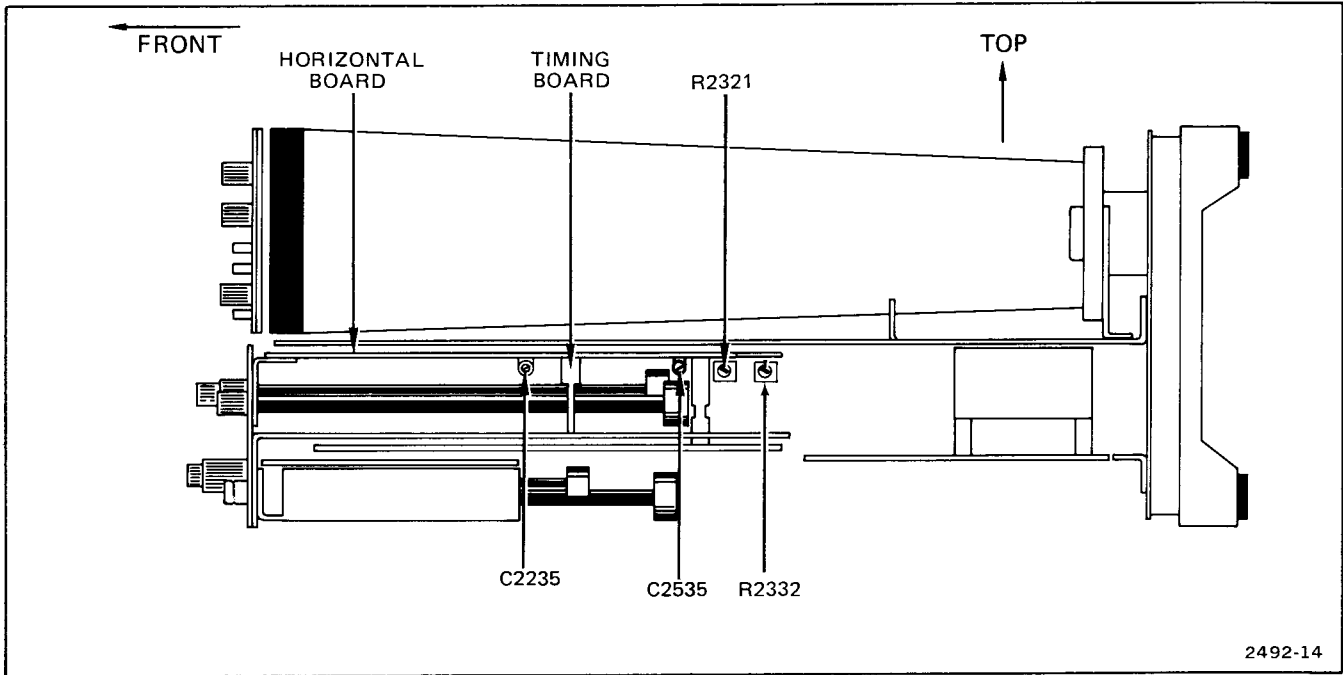

Fig. 4-5. Time Base adjustment locations (on right side of instrument).
- ADJUST—Horiz Cal, R2332 (see Fig. 4-5), and horizontal POSITION control for 1 marker per division over center 8 divisions.
- ADJUST—C2235 (see Fig. 4-5), and horizontal POSITION control for 1 marker per division over center 8 divisions.
- ADJUST—R2321 (see Fig. 4-5) for one marker per division over 8 divisions. Use POSITION control.